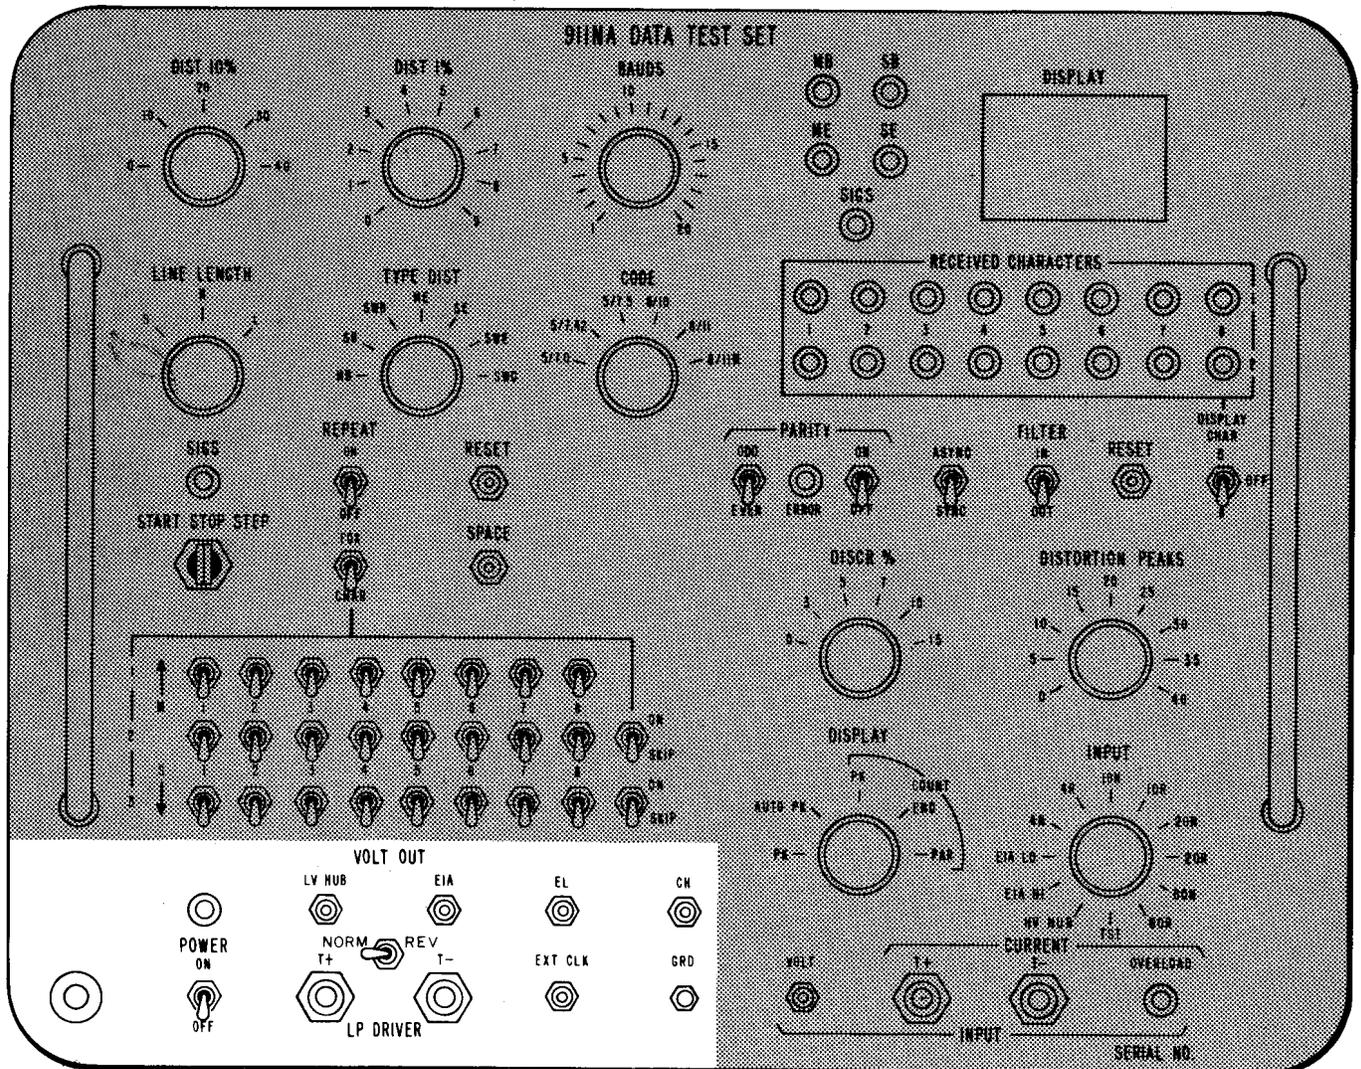

Fig. 14—Location of TSG Outputs
**3.26** Figure 14 shows the location of the TSG outputs, external clock input, ground connection, and power switch.